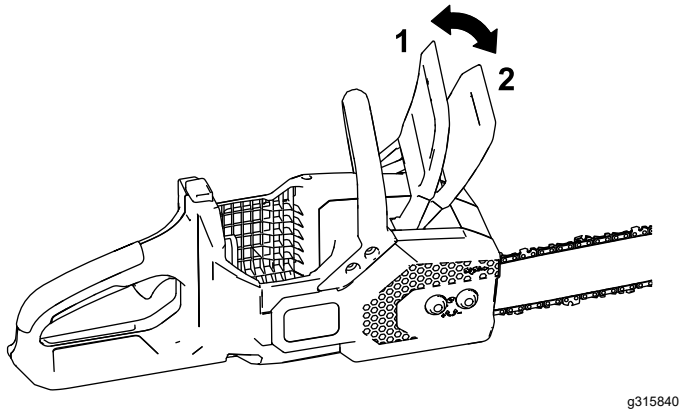

Figure 25
2. Engage the chain brake by moving the chain brake forward to the STOP position (Figure 25).
4. Disengage the chain brake by moving the chain brake rearward to the OPERATING position (Figure 25).
4. Ensure that the chain brake is in the OPERATING position (Figure 25).